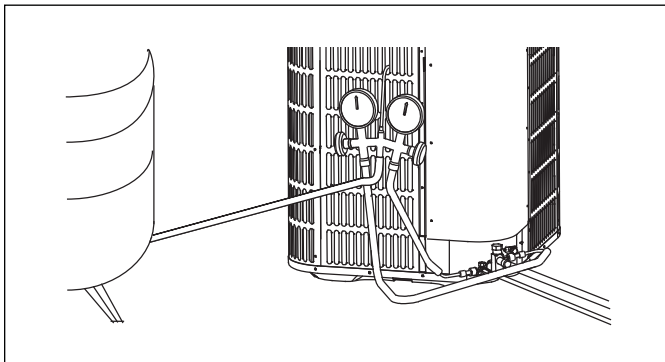

Figure 41
- ▶ Connect gauges to refrigerant bottle and unit as illustrated (Fig. 41).